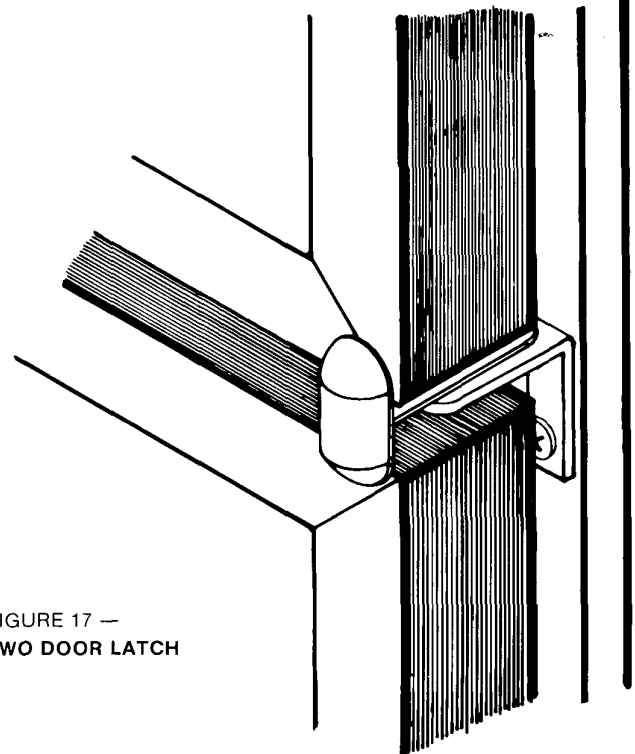

FIGURE 17 —
6. Change travel latch to opposite side (Fig. 17, 18).